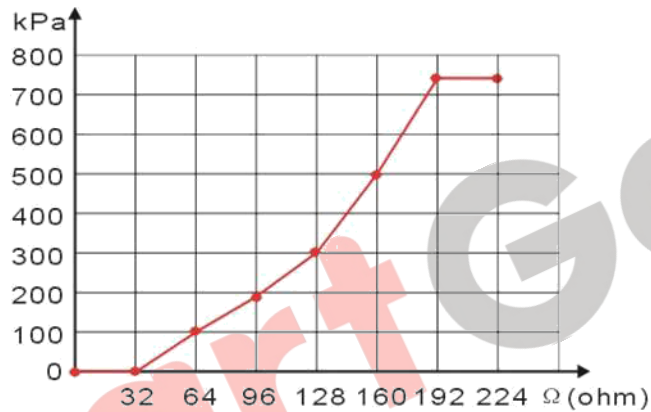

Fig. 7 Sensor Curve Setting
- It is applicable to set the headmost and backmost values in the vertical coordinate as the same as the Figure 7.